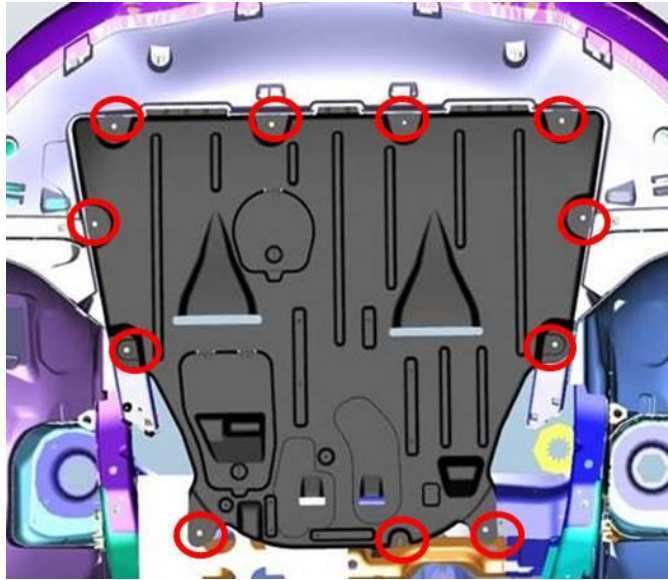

Fig. 1 Engine Belly Pan
2. Remove the bolts and the engine belly pan from underneath the vehicle (Fig. 1).
12. Reinstall the engine belly pan and bolts (Fig. 1). Tighten to 6 N·m (53 in.lbs).